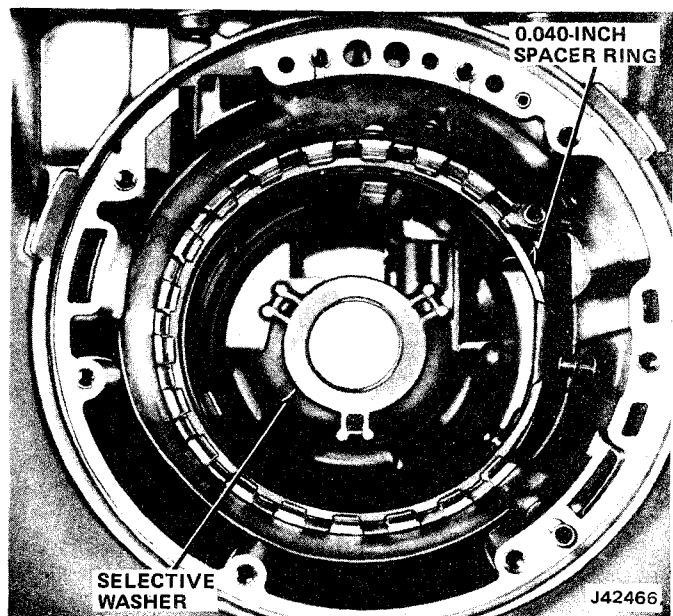

Fig. 2C-43 Selective Washer and Spacer Ring
- (6) Remove support-to-case spacer ring (fig. 2C-43).